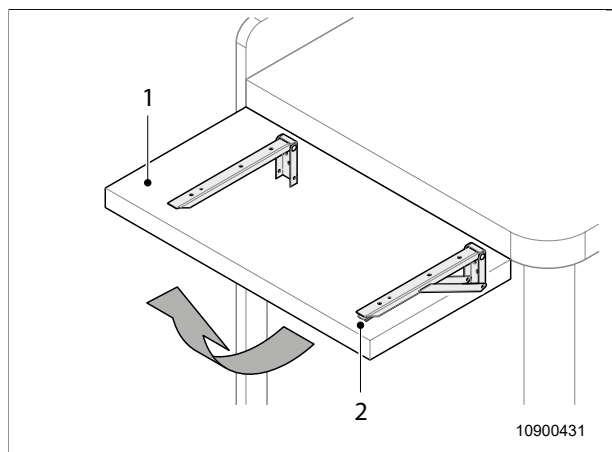

Fig. 27 Work surface extension
1. Fold up the extension (Fig. 27, item 1) for the work surface until it clicks into place.
1. Press the locking lever (Fig. 27, item 2) and fold down the extension for the work surface (Fig. 27, item 1) until it clicks into place.